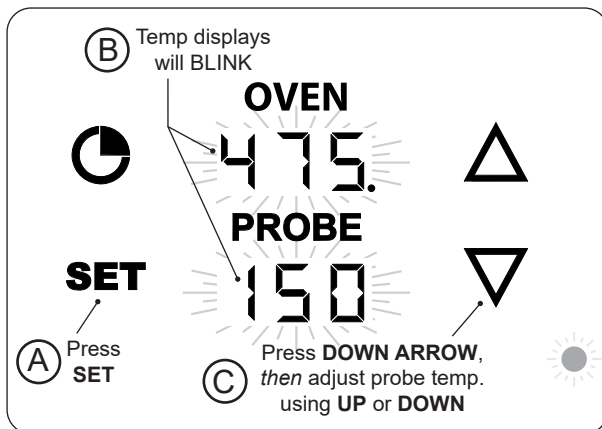

Fig. 40-2 Set probe temperature
1. With the thermometer/thermostat **on** and the meat probe plugged in, press the **SET** button once. The oven and probe displays will blink. (While blinking, either area can be selected to enter their settings.) See Fig. 40-2, A and B.
2. Press the **DOWN ARROW** to select the probe settings, then you may use the up or down arrows to set the desired temp (Fig. 40-2, C).